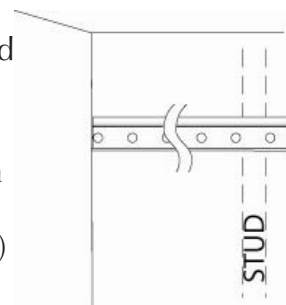

Fig. 6
5. Depending upon the location of wall studs and your design, it may be necessary to trim the end of the rail to ensure the rail holes (on 1" centers) fall onto the center of each stud. (See Fig. 6.) Use a hacksaw and file to cut and de-burr the end(s) of the rail accordingly.